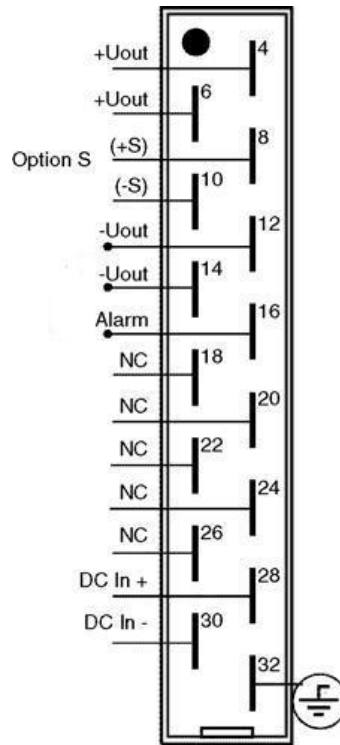

Figure 1. Pin out DIN41612 H15 connector.
1. Check the *pinout with Figure 1*. Connect the protective earth pin 32. This provide safety against electrical shock and is required to achieve EMC performance according to the declaration of conformity.
1. Check the *pinout with Figure 1*. Connect protective earth to pin 32. This provide safety against electrical shock and is required to achieve EMC performance according to the declaration of conformity.